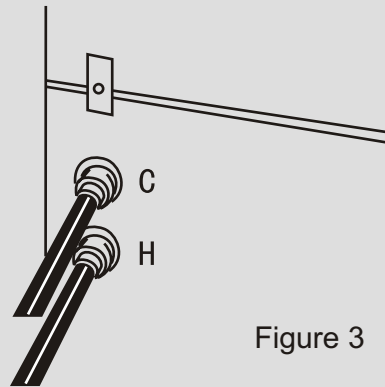

Figure 3
4. Attach the hose connected with hot water faucet to the HOT water inlet valve(sign with "H") . Attach the hose connected with cold water faucet to the COLD water valve(sign with "C"). (As figure 3)